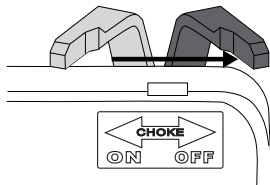

Figure 15 - Choke - OFF
8. Move the choke to the OFF position (see Figure 15).